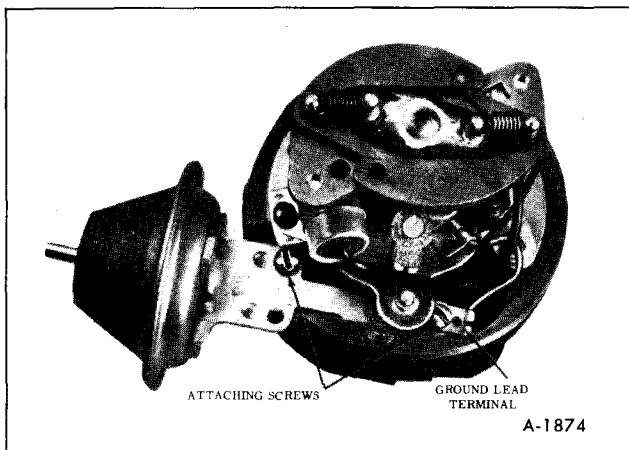

Figure 35-Vacuum Advance Unit
1. Remove the distributor cap, shield and the two vacuum advance attaching screws. (figure 35)
4. Install the attaching screws with the ground lead terminal under the inner mounting screw. (figure 35) Install the shield and distributor cap.
1. Install the vacuum advance with the ground lead terminal under the inner mounting screw. (figure 35)